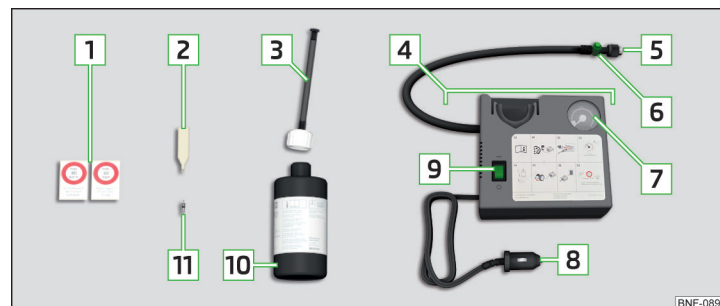

Fig. 325 Description of puncture repair kit
- › Insert the valve remover 2 » Fig. 325 on page 283 on the valve insert, so that the valve insert fits into the slot of the valve remover.
- › Screw the air compressor tyre inflation hose 5 » Fig. 325 on page 283 firmly onto the tyre valve.